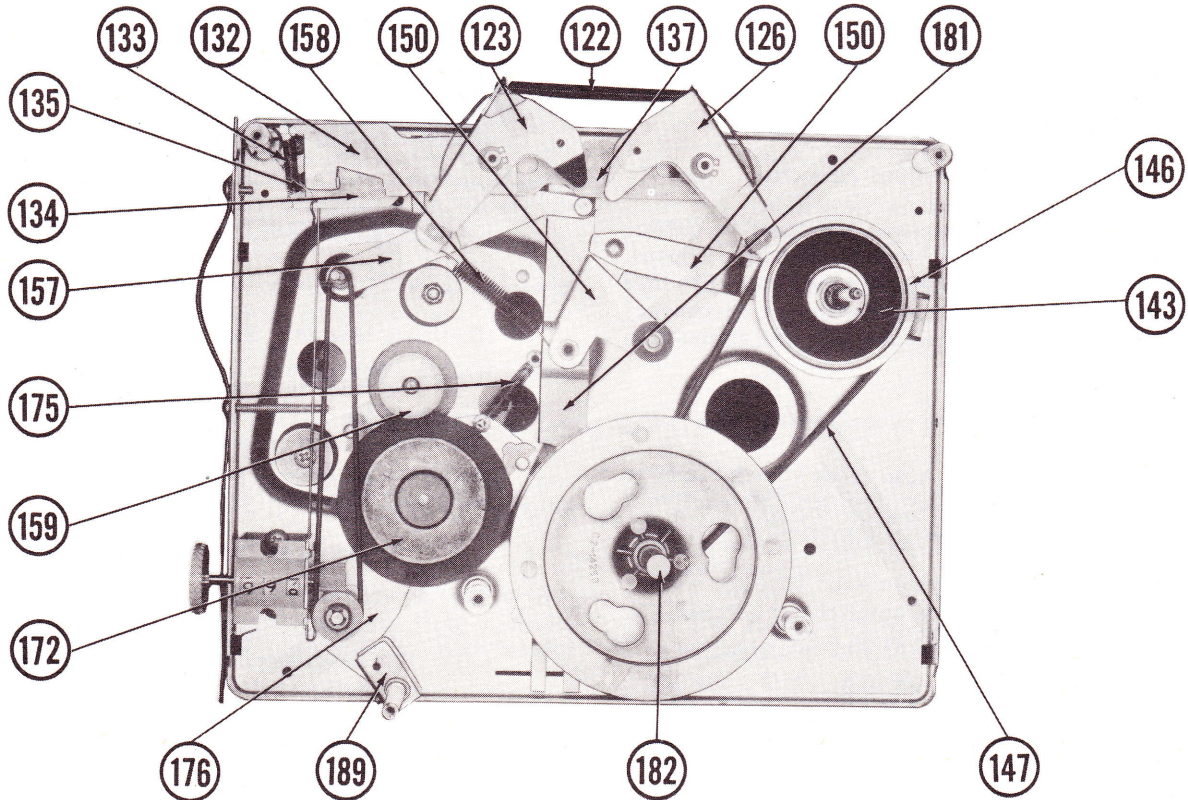

Fig. 17. Top View of Transport Mechanism With Top Mechanism Plate and Spindle Assemblies Removed
With Function knob in the Play position, actuate the instant stop arm (44). Check to see that upper instant stop plate (132) comes in contact with the rubber tire (153) on rewind spindle (152) the instant the pressure roller (34) starts moving away from the capstan. Tape movement should stop. Upon releasing the instant stop arm, tape should resume its normal travel. If not, check to see that spring (135) is connected as shown in Fig. 17 so that it returns the upper (132) and lower (134) instant stop plate to their original positions, thus disengaging the upper instant stop plate (132) from the spindle tire (153).